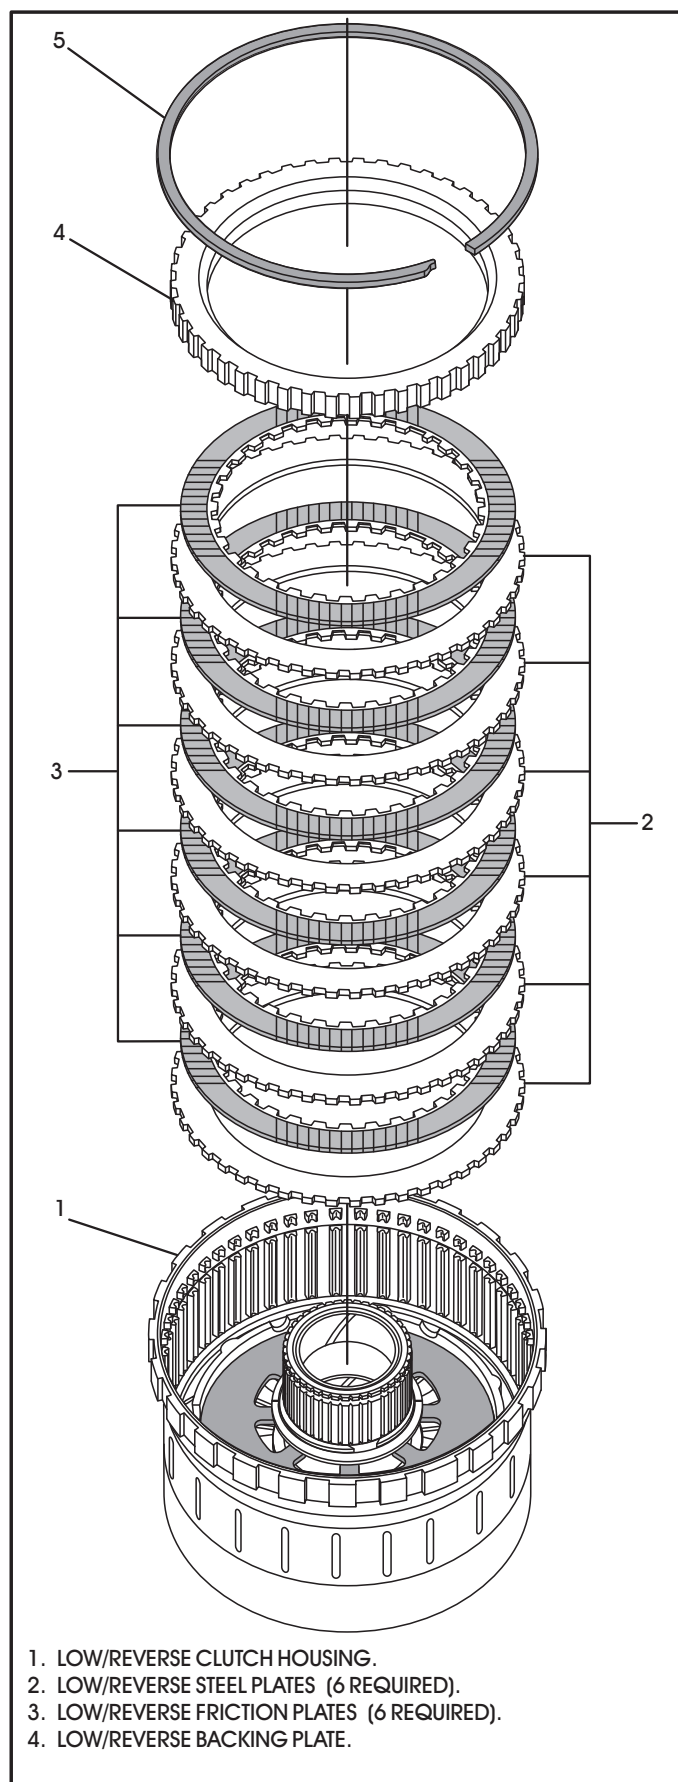

Figure 56
12. Install the low/reverse clutch pack beginning with a steel plate and alternating with a friction plate, until you have installed six of each, as shown in Figure 56.
13. Install the low/reverse backing plate with the inside bevel facing up as shown in Figure 56.
14. Install the low/reverse backing plate snap ring as shown in Figure 56. This is a selective snap ring to adjust clutch clearance.